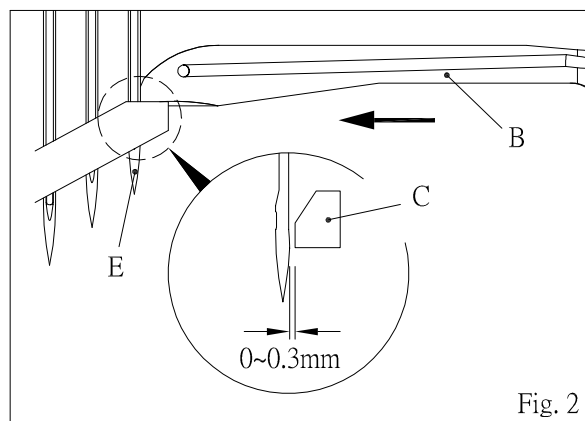

Fig. 2
0.2~0.3 mm and the clearance between rear needle guide and leftest needle D should be 0~0.05 mm by then, the clearance between looper F and rightest needle E should be 0~0.05 mm and looper should touch middle needle lightly and the clearance between rear needle guide and leftest needle D should be 0.2~0.3 mm. (Fig. 2)
When spreader looper moves to its left, the hook blade C meets left needle, the clearance between hook blade C and left needle should be 0.5~0.8 mm, when spreader looper moves to its leftest dead point, the distance between its hook blade C and the center of left needle should be 4.5~5.5 mm. When adjusting, loosen screw D and E from spreader arm in order to adjust its position of spreader looper. (Fig. 2、3)